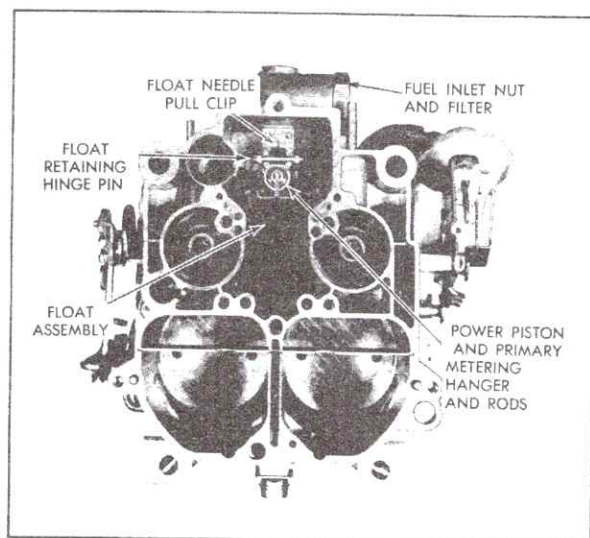

Fig. 6-88 Float Bowl Partially Assembled
5. Remove power piston and primary metering rods, using needle nosed pliers to pull straight up on metering rod hanger directly over power piston, Fig. 6-88. Remove power piston spring from well.